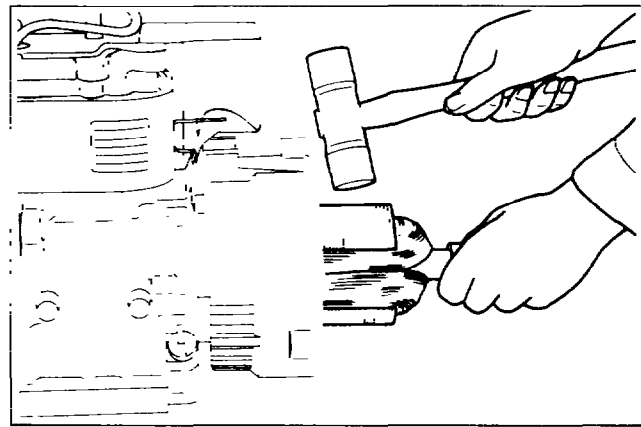

Fig. 10-15
(2) Remove the rotor. Strike the rotor by the core with a plastic hammer, and remove the rotor from the engine taper shaft. If the rotor does not come out, change its angle and strike it again. (See Fig. 10-15.)	Never strike the slip rings or windings.